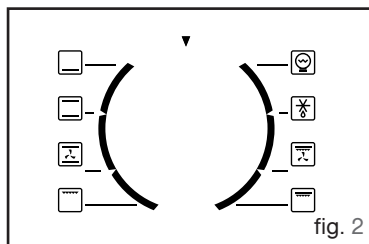

fig. 2
• **Multi-purpose dish (fig.2)**
When the time has lapsed, the timer will show "0 min" and the oven will switch off (fig.2)
Example: position “” (fig.2).
Example: position “□” (fig.2).